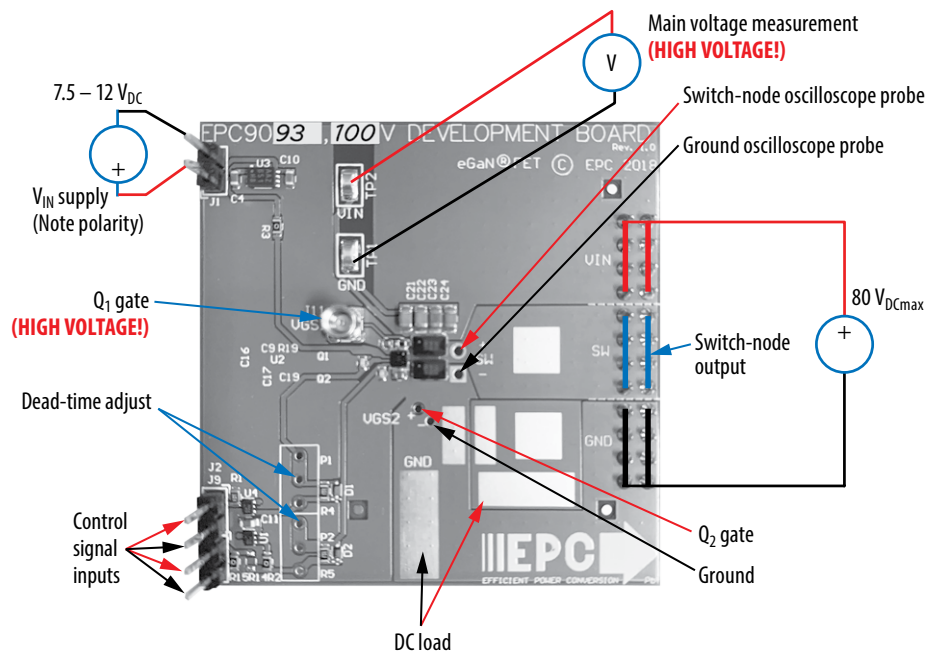

Figure 2: Proper connection and measurement setup
Development board EPC9093 is easy to set up to evaluate the performance of two EPC2053 eGaN FETs. Refer to figure 2 for proper connect and measurement setup and follow the procedure below:
2. With power off, connect the switch node (SW) of the half bridge OUT (J3, J4) to your circuit as required (half bridge configuration). The EPC9093 features an optional buck converter configuration, as shown in figure 2, with unpopulated footprints for an output inductor and output capacitors.